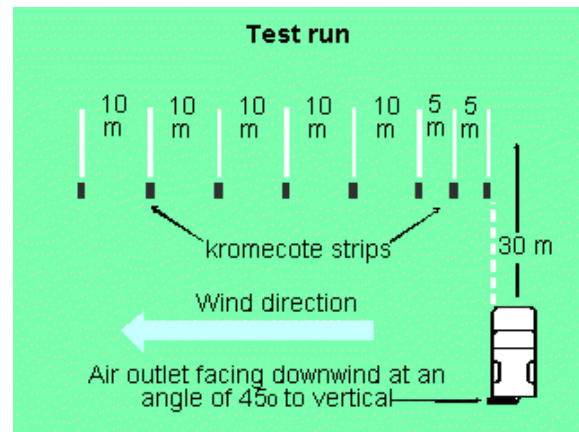

Figure 1. Mister test run (Source: Hardi Spraying Equipment Pty Ltd WA)
- Do the calibration with a 50/50 water/spraying oil or water/diesel mix for low volume (LV) formulations, or diesel for ultra-low volume (ULV) formulations. Do *not* calibrate with insecticide in the tank.
- Check the swath width, using strips of oil-sensitive paper for ULV formulations or water-sensitive paper for LV formulations, laid down in the paddock at 10 m intervals as in Figure 1. Start up the mister, and drive 30 to 50 m past the test strips on the upwind side at the desired spraying speed.